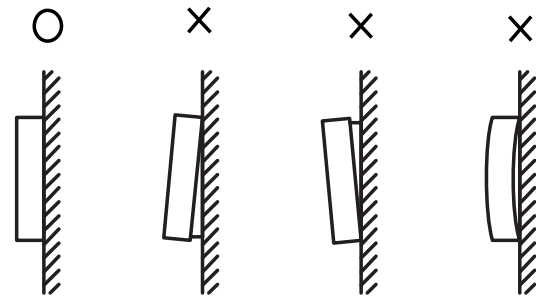

Figure 12
- 2) Correct install the back cover and firmly buckle the front cover and back cover, otherwise will make the front cover drop off. (Fig. 12)